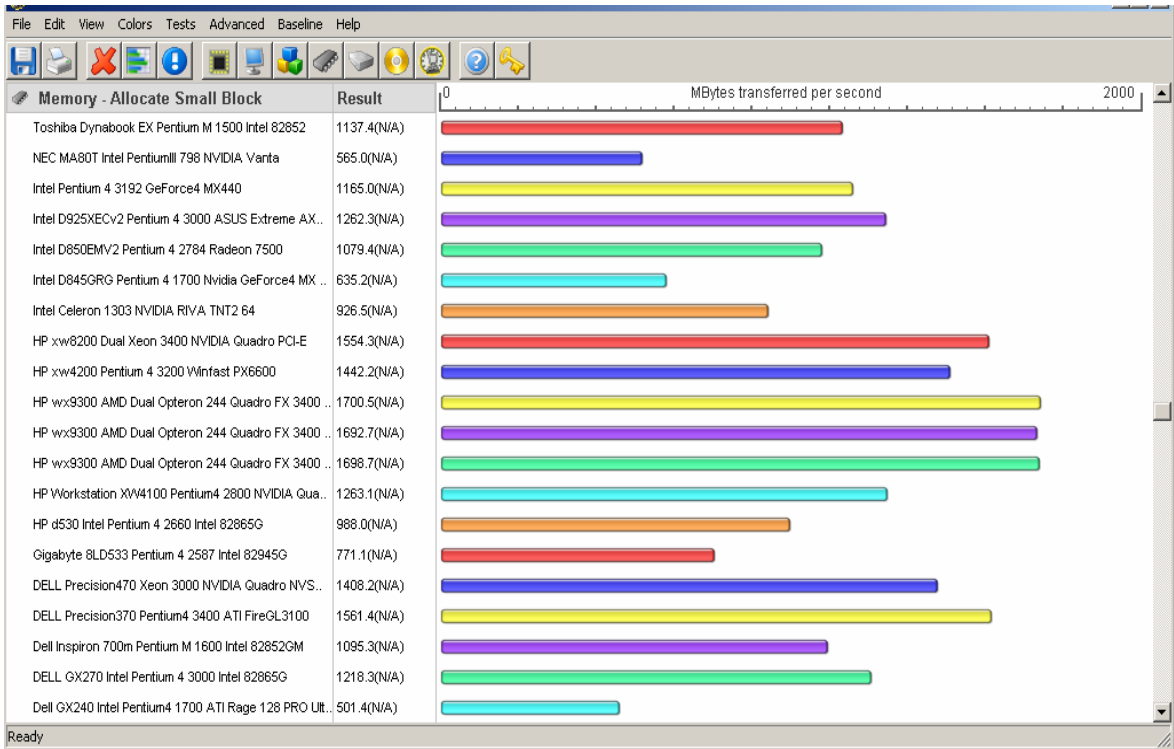

Figure 8.17 CPU PERFORMANCE FOR MEMORY TO ALLOCATE SMALL BLOCKS
**More detailed results:** - By using the advanced memory testing window it is possible to examine memory performance in more detail. Figure 8.17 to 8.21 shows memory test suit performance chart and comparison for different types of CPUs.